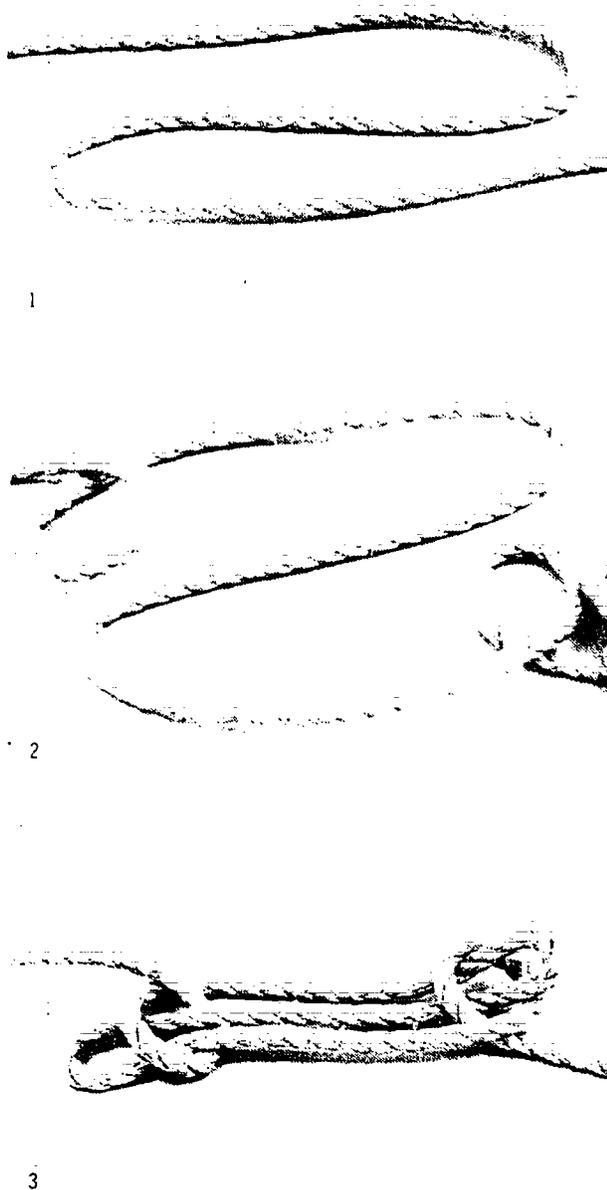

Figure 7-22. Tying a Sheepshank
- damaged part of the line before replacement can be accomplished. Figure 7-22 illustrates the steps in tying the sheepshank.